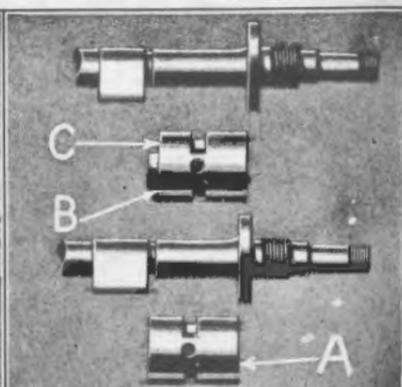

Fig. 288
**480** After a camshaft has been straightened or when a new shaft is to be installed, the bearings are first positioned on the shaft. The center bearing is assembled to the shaft with the notch in the bearing pointing towards the rear end of camshaft. The front bearing is assembled with the radius on the end of the bearing (See "A" Fig. 288) set towards the front of the shaft. The old style front bearing with the 30° chamfer "B" and notch "C", is always assembled with the notch set towards the rear. This is to allow clearance for the head of push rod.